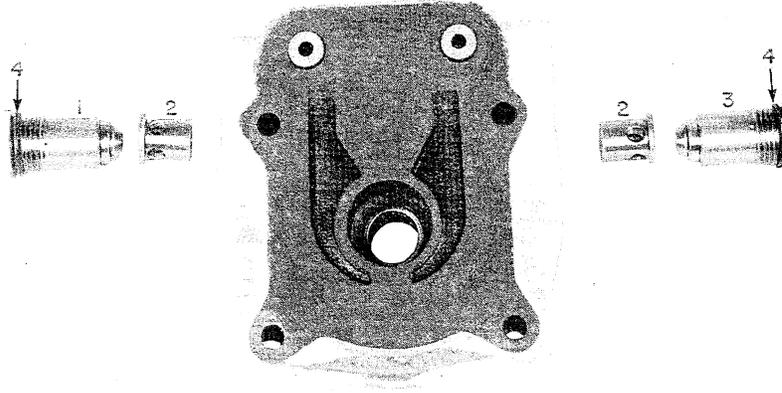

FIGURE 26
11. Figure 26 shows the removal of the high pressure relief valves. Relief valve (1) is reverse and relief valve (3) is forward. Sitting in the loader, relief valve (1) is on the right side and relief valve (3) on the left. Both relief valves have replaceable seats (2) and are sealed to the back plate with O-rings (4).